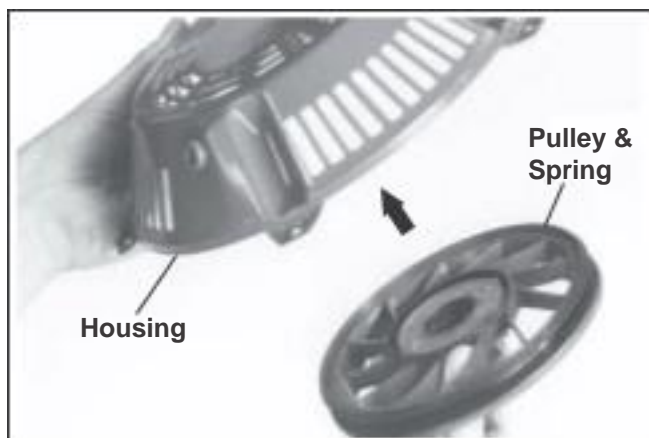

Figure 7-9. Installing Pulley and Spring into Housing.
2. Install the pulley with spring and keeper assembly into the starter housing. See Figure 7-9.